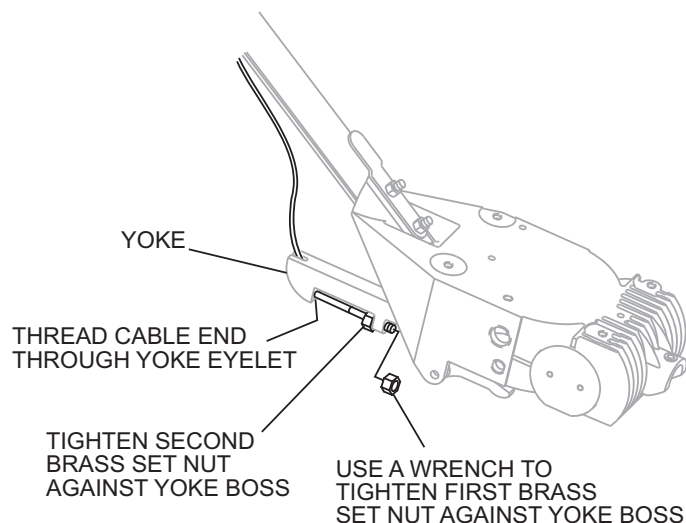

Figure 15. Cable Yoke Attachment
5. Insert the cable end through the yoke eyelet (Figure 15). Tighten the first brass set nut by hand to remove all the slack from the cable.